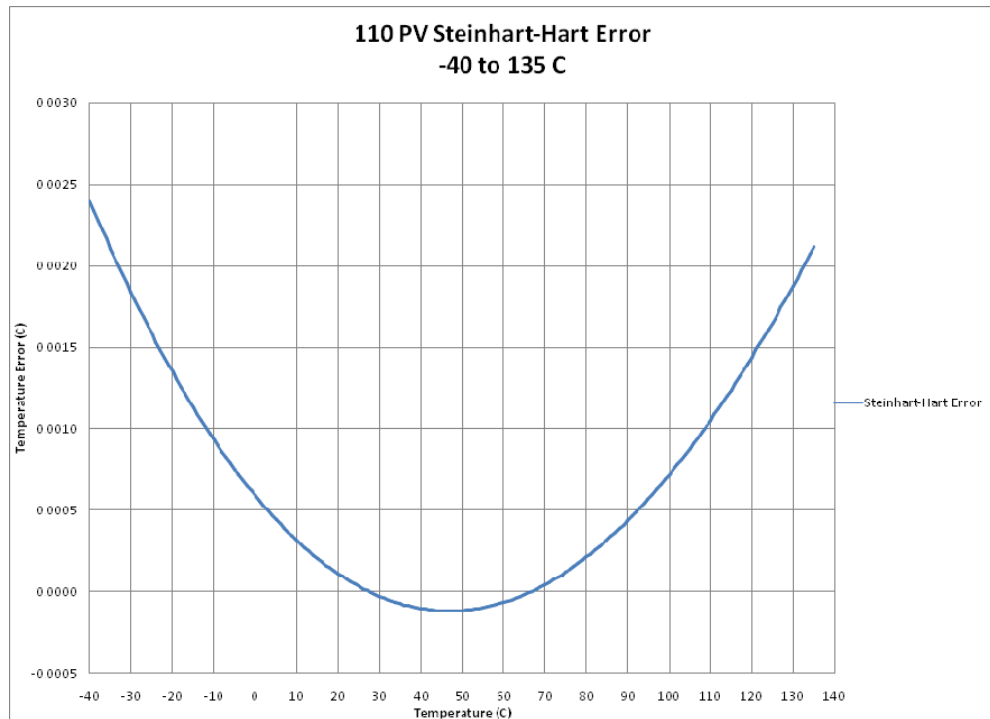
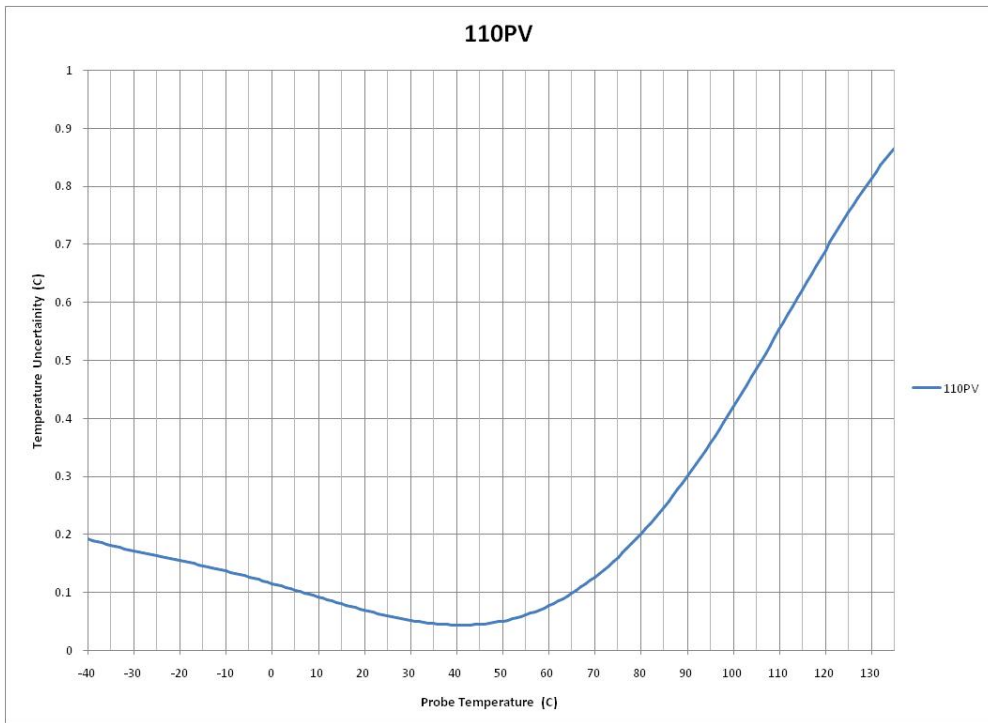

FIGURE 2-1. Steinhart-Hart Error
FIGURE 2-2. 110PV measured with a 3-wire half bridge
The overall probe accuracy is a combination of the thermistor's interchangeability specification and the accuracy of the bridge resistor. The Steinhart-Hart equation used to calculate temperature has a negligible error (Figure 2-1). In a "worst case" the errors add to an accuracy of $\pm 0.2^{\circ}\text{C}$ over the range of -40° to 70°C ; $\pm 0.5^{\circ}\text{C}$ over the range of 71°C to 105°C ; and $\pm 1^{\circ}\text{C}$ from 106°C to 135°C . The major error component is the interchangeability specification (tolerance) of the thermistor. The bridge resistor has a 0.1% tolerance with a 10 ppm temperature coefficient. Figures 2-2 to 2-7 show the possible worst case probe and measurement errors.
Connections to Campbell Scientific dataloggers are given in Table 4-1. Most CRBasic dataloggers can measure the 110PV using either a 4-wire half bridge or 3-wire half bridge. The CR200(X) and Edlog dataloggers can only use a 3-wire half bridge. The 4-wire half bridge method is preferred because it reduces cable errors (see Figures 2-2 and 2-3). The 4-wire half bridge method requires two differential input channels and one voltage excitation channel. The 3-wire half bridge method uses one single-ended input channel and one voltage excitation channel.
For these dataloggers, the BrHalf4W instruction is typically preferred because it reduces cable errors (see Figures 2-2 and 2-3). The BrHalf instruction requires fewer input channels.